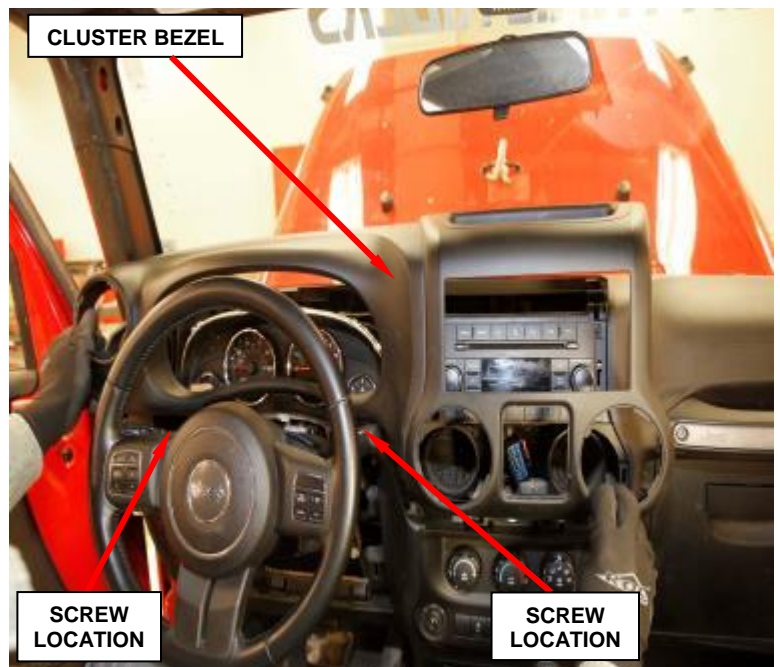

Figure 109 – Cluster Bezel Screws
19. Remove the two screws below the cluster on both sides of the steering column (Figure 109).